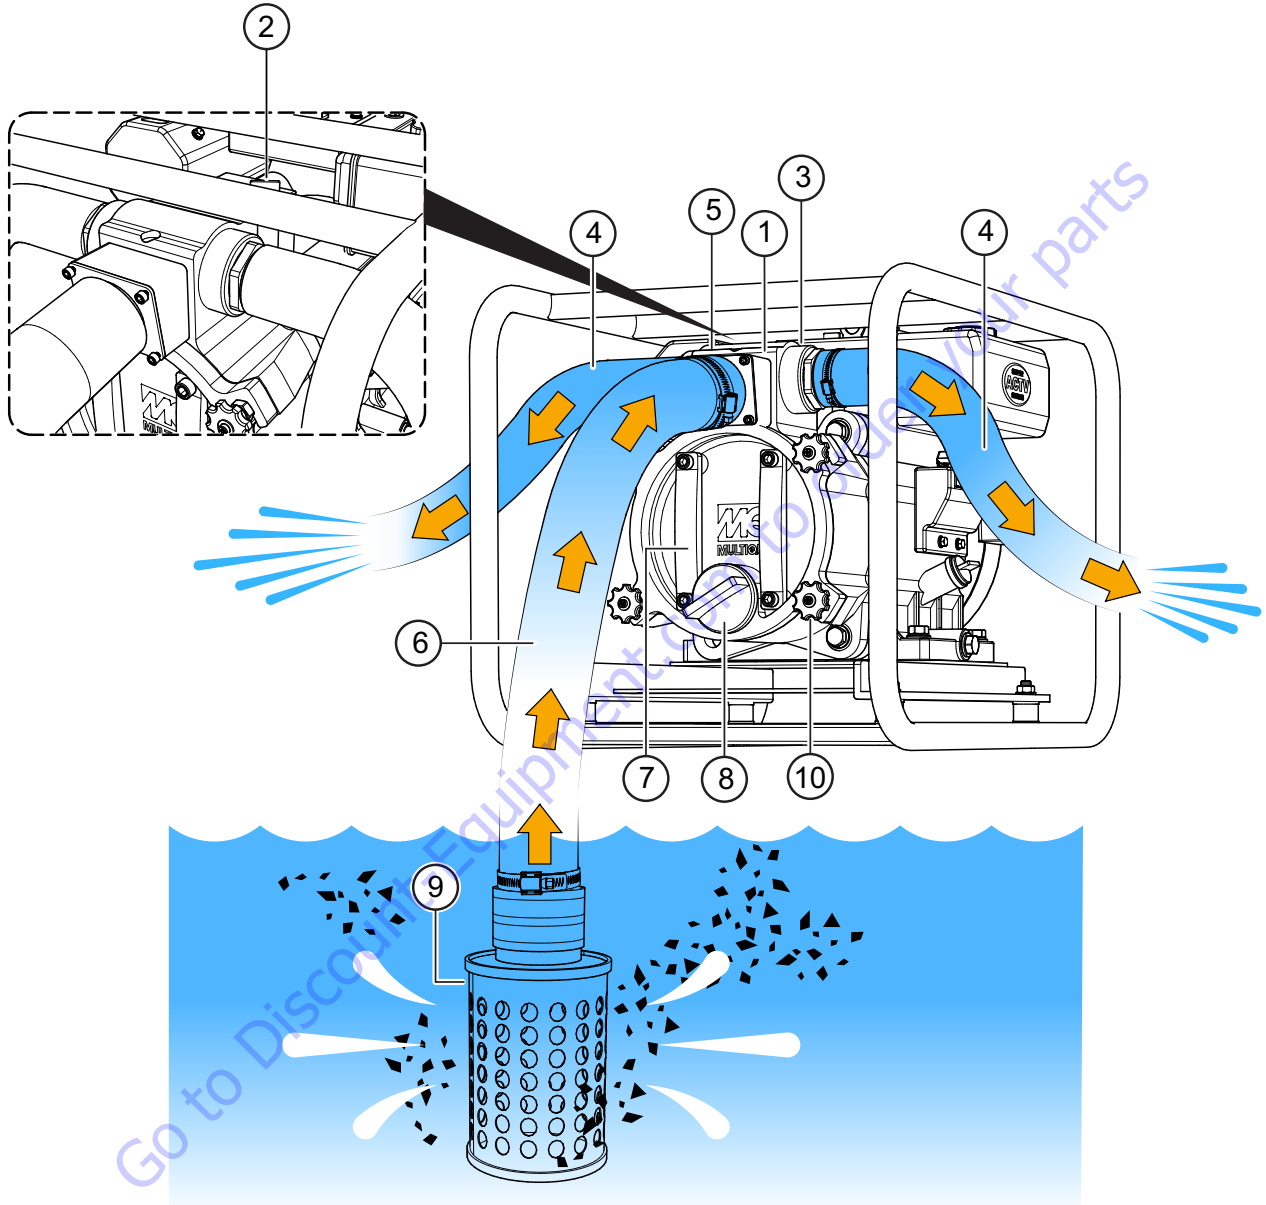

Figure 3. QP3TK Key Component Callouts
Figure 3 shows key component areas of the QP3TK.
3. Initially prime the pump by removing the fill cap (see Figure 3) and filling the casing with water. If the pump casing is not filled with water prior to operations, it will not be able to start the pumping process and you risk overheating the mechanical seal assembly.